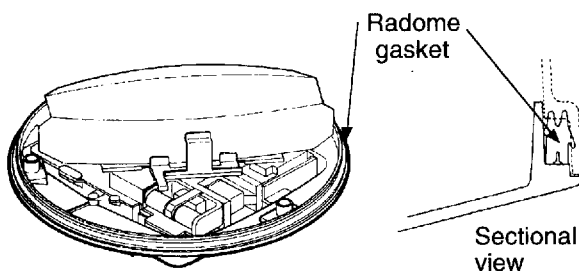

Figure 4-6 Proper position of gasket
11. Confirm that the gasket is positioned as shown in Figure 4-6. Place the cover on the base, facing the arrow on the antenna unit in the direction of the bow. Fasten the cover.